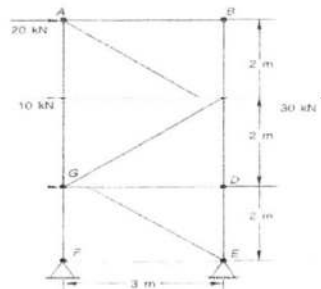

Fig.3
2. (a) Determine the forces in all the members of the truss shown in Fig. 3. Tabulate the results and Indicate the magnitude and nature of forces on the diagram of the truss. (Use Method of Joints to solve this problem)